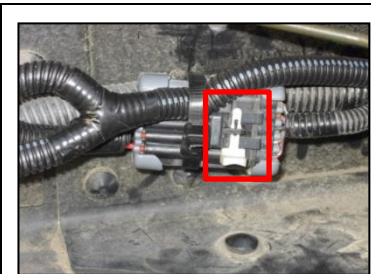

Figure 21
8. Secure the PTO connector to the chassis harness at the rear of the cross-member with one (1) tie-strap. (See Figure 21.)